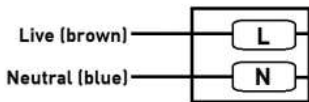

Fig. 2
- Unscrew the terminal enclosure, feed the mains cable into the enclosure, and connect the luminaire to the mains supply ensuring the correct polarity is observed (see Fig. 2):